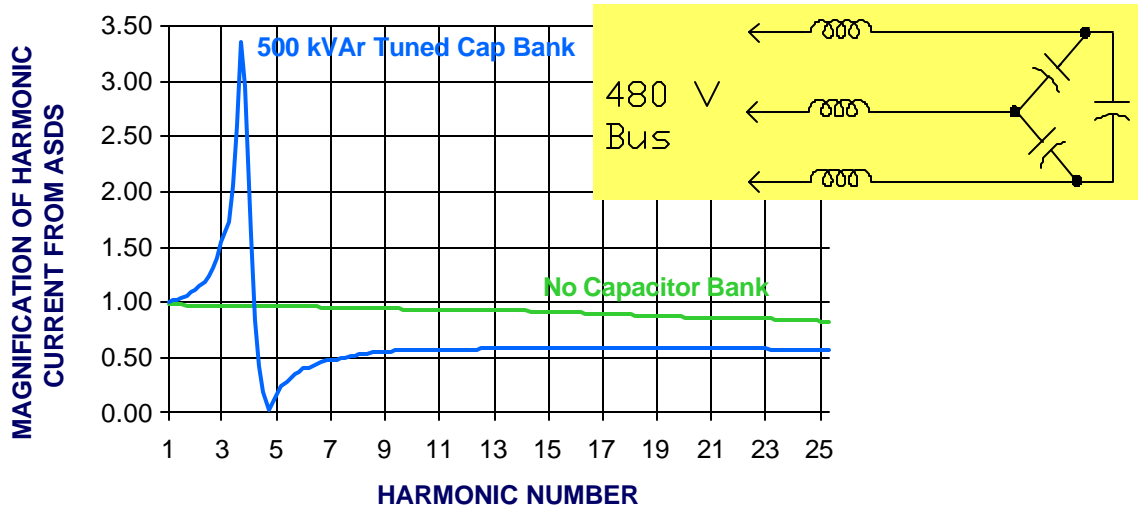

Figure 5. Effect of a tuned capacitor bank on the magnification of harmonic currents from nonlinear loads.
Passive shunt harmonic filters are the traditional method of controlling harmonic distortion levels. A single-tuned filter consists of tuning reactors in series with a capacitor bank. This series combination results in a low impedance at the resonant frequency. Therefore, we choose this resonant frequency to match up with one of the characteristic harmonics that we want to control. Then the filter will absorb the harmonic currents at this frequency and prevent them from flowing onto the supply system. The effect of the filter on the frequency response of the system is shown in Figure 5.
- Always design the harmonic filters for the lowest order harmonic component generated by the nonlinear loads. You can see in Figure 5 that the filters create a new parallel resonance at a frequency below the series resonance frequency. This was the concern I was talking about when discussing the application of filters for 12 pulse loads earlier. You might think that you could design an eleventh harmonic filter for these loads. However, you have to be careful to make sure you don't create a new resonance near the fifth or seventh harmonics because the 12 pulse configuration will not result in perfect cancellation of these components and you don't want to magnify them with your filter.